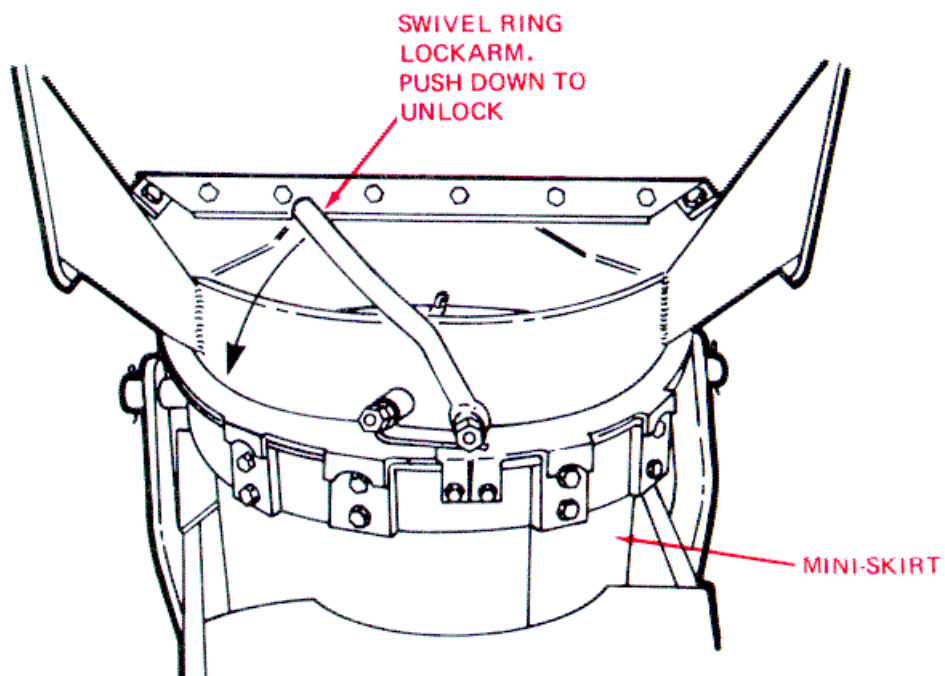

Figure 2-30. Swivel Ring Lock Arm.
- (4) Lower the swivel ring lock arm (fig. 2-30). Swing the trough to left or right as required. Raise the lock arm to lock trough (if desired).